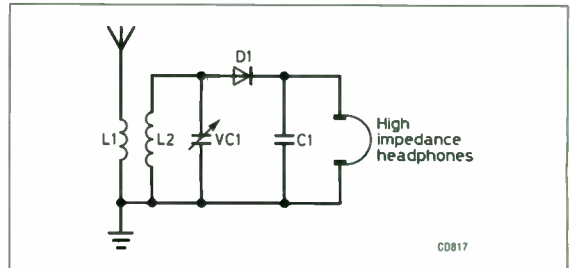

Fig 2.1. A simple crystal receiver
This type was the subject of one section of Chapter 1 and will receive limited cover here. Fig 2.1 shows a basic receiver in which you should already be able to identify most of the component parts. L2 and VC1 form a resonant circuit which is responsible for the selection of the required transmitting station. For the mathematicians – if the inductance of the coil and the capacitance of the capacitor are known, the frequency of the circuit (the frequency at which maximum absorption of signal will occur) can be calculated by substituting those values into the formula:
To receive stations having different frequencies it is necessary to change the value of either the coil (L) or the capacitor (C). In the circuit shown in Fig 2.1 the capacitor is shown as being variable so in the practical circuit the tuning control knob would be fitted to the spindle of the capacitor.